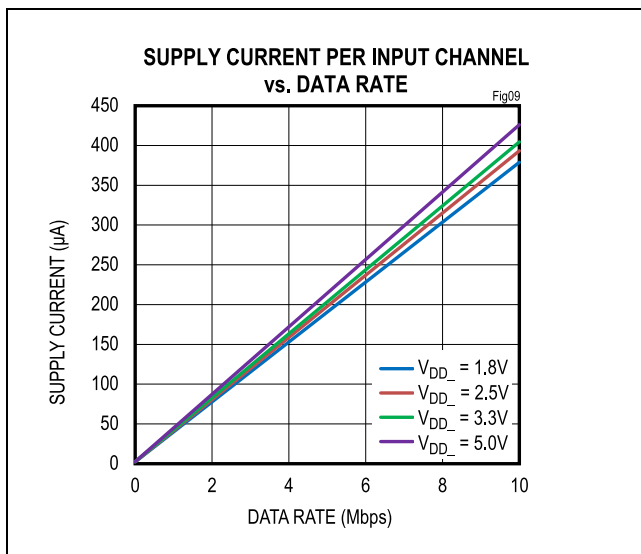
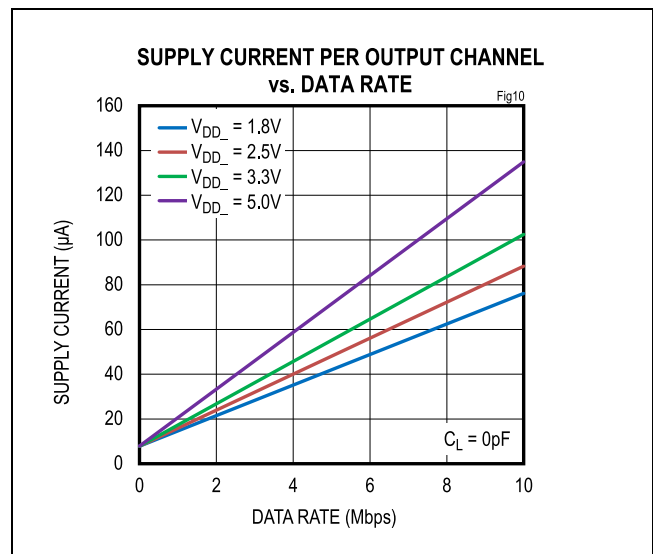

Figure 9. Supply Current per Input Channel (Estimated)
Figure 10. Supply Current per Output Channel (Estimated)
The required current for a given supply (V_{DDA} or V_{DDB}) can be estimated by summing the current required for each channel. The supply current for a channel depends on whether the channel is an input or an output, the channel's data rate, and the capacitive or resistive load if it is an output. The typical current for an input or output at any data rate can be estimated from the graphs in Figure 9 and Figure 10. Note that the data in Figure 9 and Figure 10 are extrapolated from the supply current measurements in a typical operating condition.
The total current for a single channel is the sum of the no load current (shown in Figure 9 and Figure 10), which is a function of voltage and data rate, and the load current, which depends on the type of load. Current into a capacitive load is a function of the load capacitance, the switching frequency, and the supply voltage.
- Channel 1 is an output channel operating at 2.5V and 2Mbps, consuming 23.93µA, estimated from Figure 10.
- Channel 2 is an input channel operating at 2.5V and 10Mbps, consuming 393.35µA, estimated from Figure 9.
- Channel 1 is an input channel operating at 3.3V and 2Mbps, consuming 82.92µA, estimated from Figure 9.
- Channel 2 is an output channel operating at 3.3V and 10Mbps, consuming 102.49µA, estimated from Figure 10.